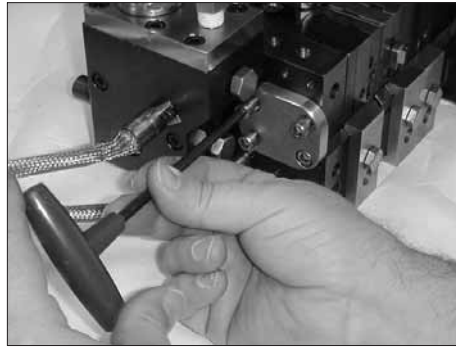

Figure 7-35 Installing the pump shaft end cap
8. See Figure 7-35. Using an M5 hex wrench, install the pump shaft end cap. Tighten to 10–12 N•m (89–106 in.-lb).